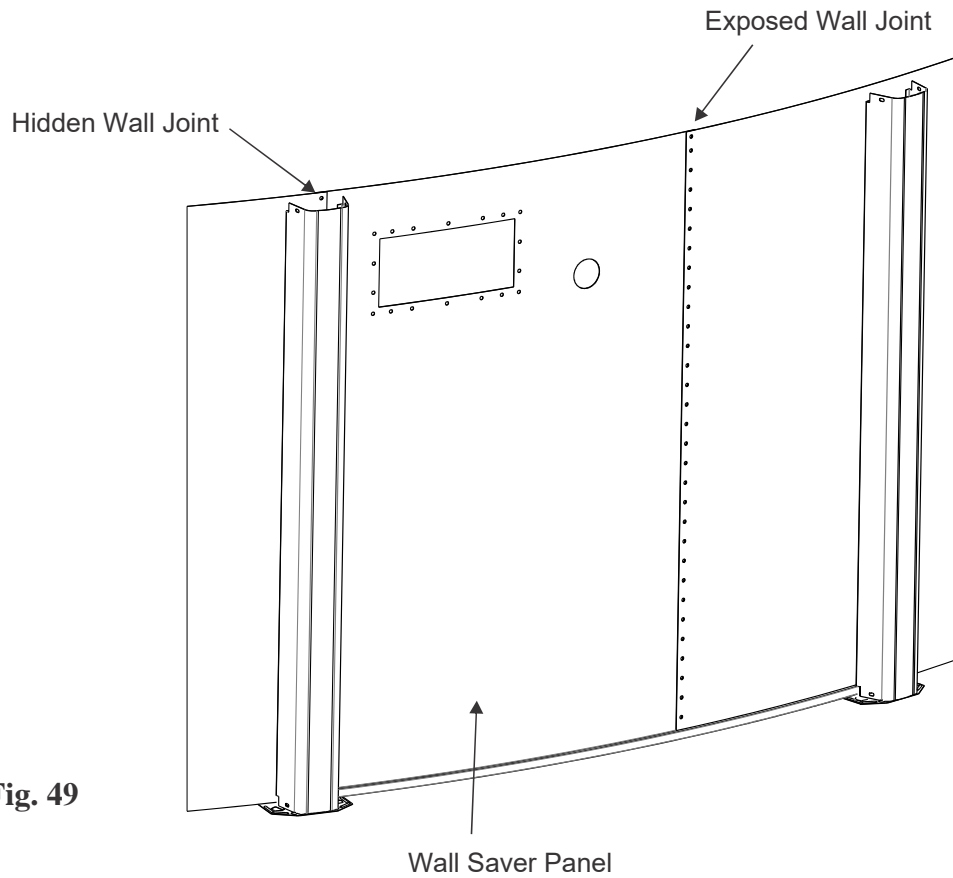

Fig. 49
Many pool walls come with a Wall Saver Panel. The Wall Saver Panel is a separate piece of the pool wall that has the skimmer and return openings in it. The Wall Saver Panel is joined to the pool wall at each end. Your pool will have 2 wall joints. On many size pools and many Wall Saver Panels this means that one (1) of the joints will be exposed and clearly visible on the outside of the pool instead of being behind a pool upright. This is normal. See Fig.49 for how the wall saver panel is installed in the pool wall.